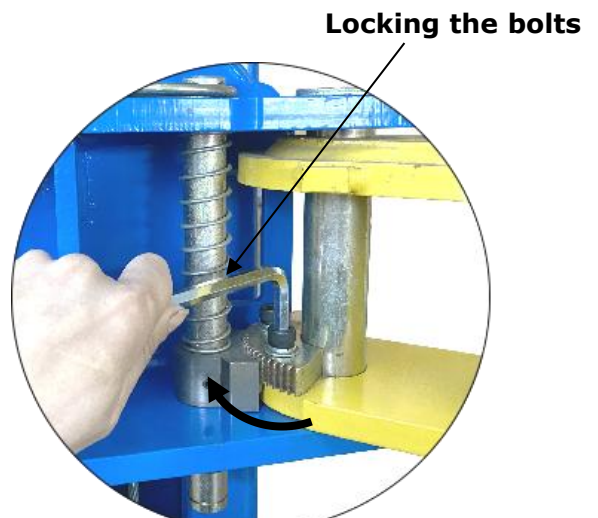

Fig. 40
4. Adjust moon gear and arm lock to make it to be meshed, then tighten the socket bolts of arm lock (**See Fig. 40**).